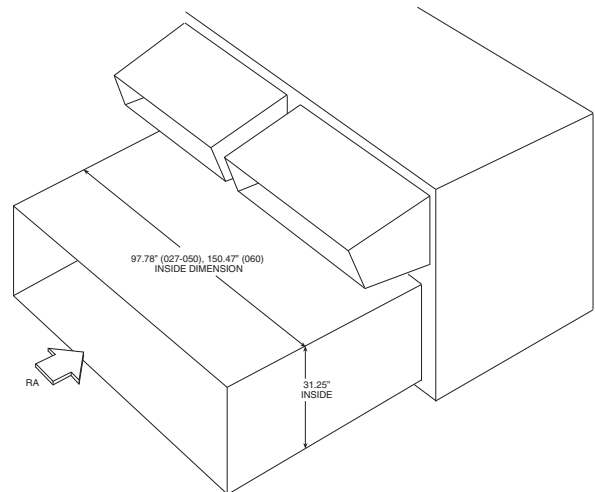

Fig. 5 — Side Return Air Conversion
4. Using a return duct with a minimum 3/4 in. flange, connect the return duct to the side of the unit around the openings in the side of the unit. Use a single duct to cover both openings. Ensure the ductwork is properly sealed against the side of the unit. Use a flex connection to minimize vibration. See Fig. 5 for horizontal return duct dimension for field converted units.